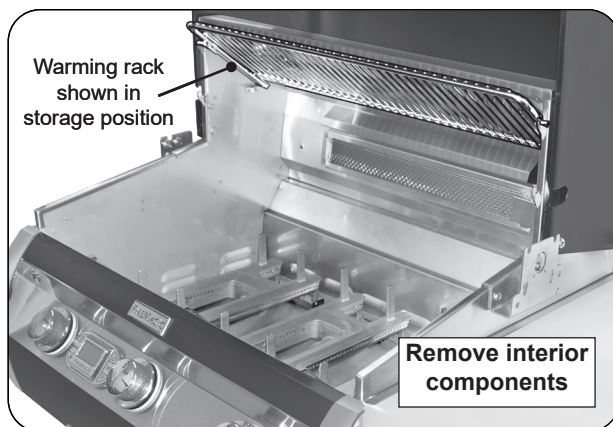

Fig. 34-1 Prepare grill for rotissing
1. Set the warming rack to storage position, remove the backburner cover and cooking grids (see Fig. 34-1).